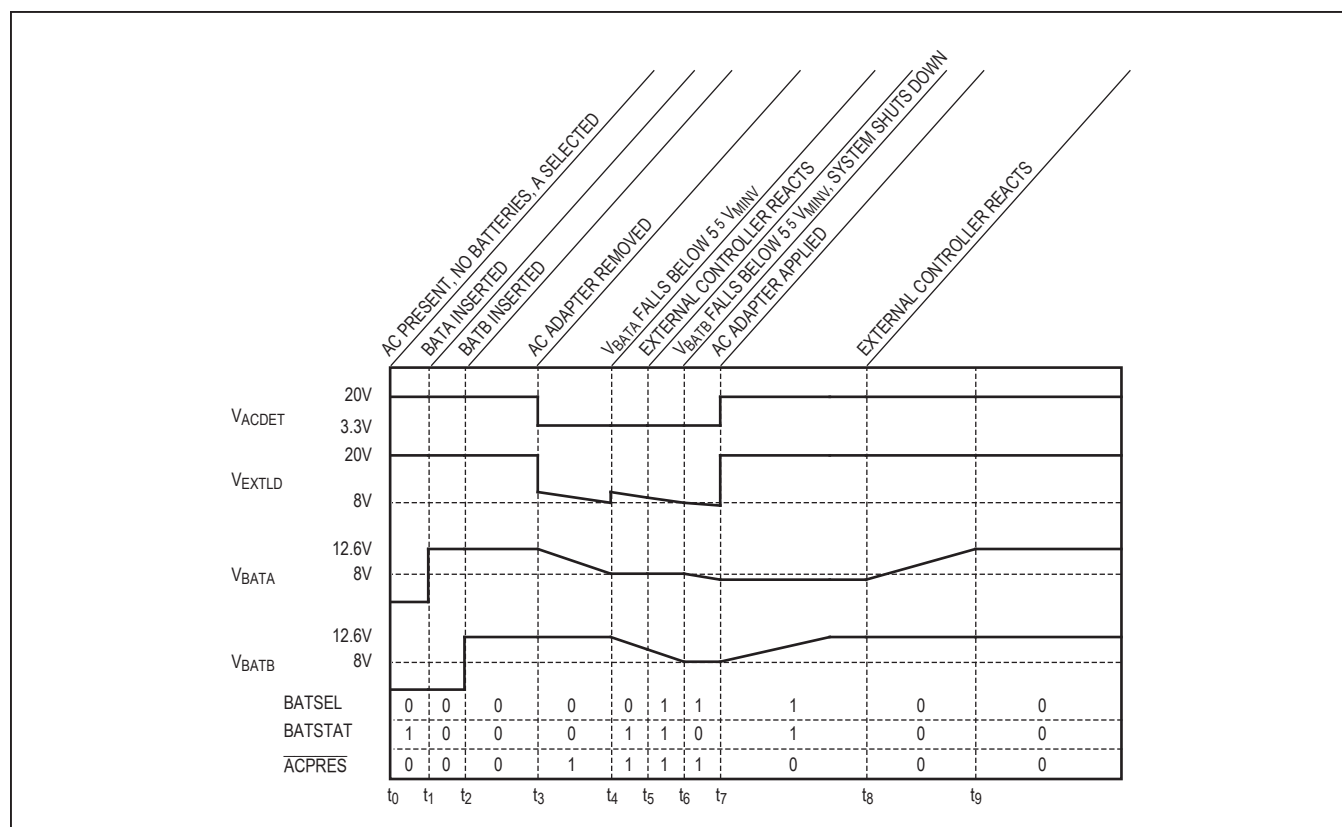

Figure 12. Charge/Discharge Example
Figure 12 shows a typical discharge and charge cycle for a system utilizing the MAX1773/MAX1773A, two 3-cell lithium-ion (Li+) batteries, and a 20V AC adapter power supply. The diagram starts with the AC adapter applied, no batteries present, and battery A selected (see the AC Adapter States section). $BATSTAT = BATSEL = 1$ indicates that battery A is not present and battery A's charge path is not connected. If the external controller polled the MAX1773/MAX1773A as described in Status and Configuration, then $BATSTAT$ would return $BATSEL$ (0) to indicate that battery B is not present.